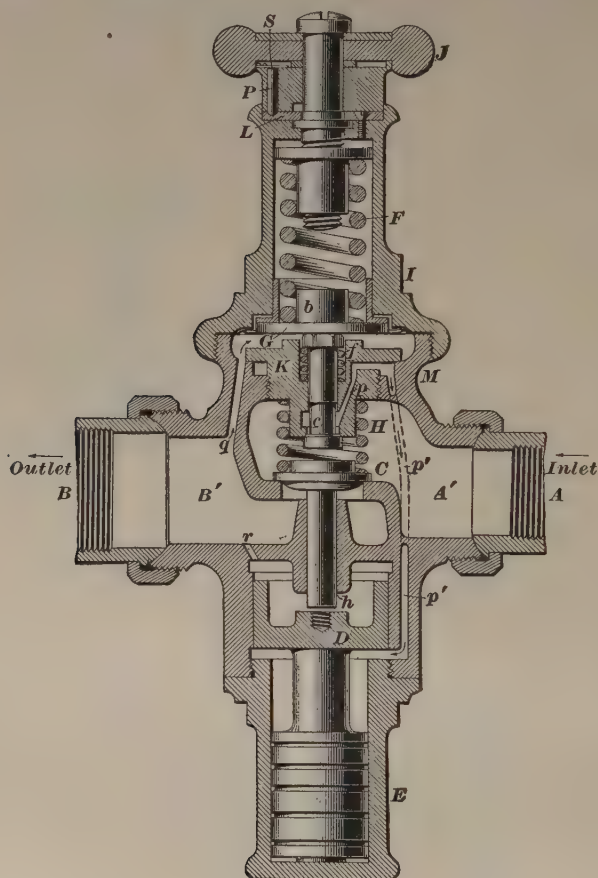

FIG. 3
4. Pressure Regulator.—In connection with trains heated with this system, the locomotive is supplied with a Mason reducing valve for the purpose of reducing and regulating the pressure of steam supplied to the train. A section of this valve is shown in Fig. 3. Steam from the boiler enters at *A* and passes out at *B* into the train system, the connections being made by the unions shown. The steam passes into *B'* through the main valve *C* when the latter is raised by piston *D*, which is moved upwards by the steam that comes through port *p'* when the auxiliary valve *c* is moved down (that is, opened) by the force of spring *F*, this valve *c* remaining open as long as the pressure in *B'* is below a certain amount. The port *p'* passes around behind chamber *A*.